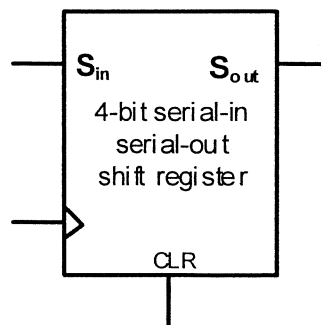

Fig 1
- b) Draw a schematic diagram for a *4-bit serial-in serial-out shift register* (Fig 1) using the *D Flip-flop* in *Question 5.a*. The shift register shifts its stored data by one bit position at each tick of the clock. The serial input, *S_{in}*, receives a bit to be shifted into the register at each clock tick and the bit will be sent out at the serial output, *S_{out}*, after 4 clock ticks. When *CLR* is 1, shift register sets all its bits to 0 at a clock tick, otherwise it will function as described.